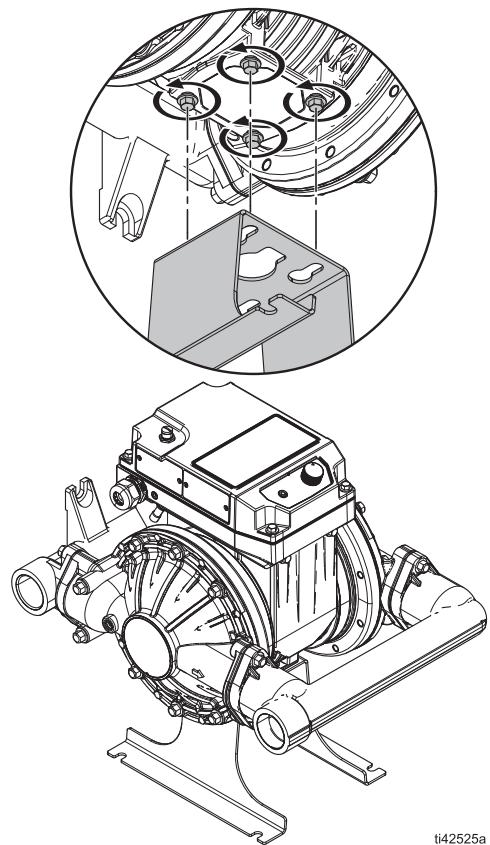

FIG. 18. Maintenance bracket stand
5. Optional: Mount the back of the pump (opposite side from the motor) to the maintenance bracket stand (purchase separately). See related parts manual. See **Related Manuals**, Page 3. This positions the pump facing up, enabling easy working access to the pump and motor. The stand can be mounted to a workbench through the mounting holes on the feet. See FIG. 18.